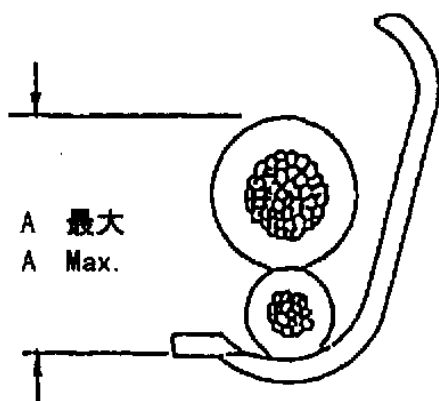

Fig.3
※1 2本圧着 : Fig.3参照
Two Wires Crimping : See Fig.3
1. 2本圧着の場合は、Fig.3のように重ねて圧着する。この場合絶縁被覆外径の規制はFig.3に示す通りである。但し、2本の絶縁被覆外径が異なる場合は外径の小さい方の電線を下にする。
1. When crimping two wires, they shall be stacked as seen in Fig.3. In this case, outside diameter of their insulation shall conform to that given in Fig.3. If their diameters are different from each other, the smaller shall be placed underneath.
2. Diameter of a wire insulation shall be in the range tabulated in Fig.3 when crimping two wires.